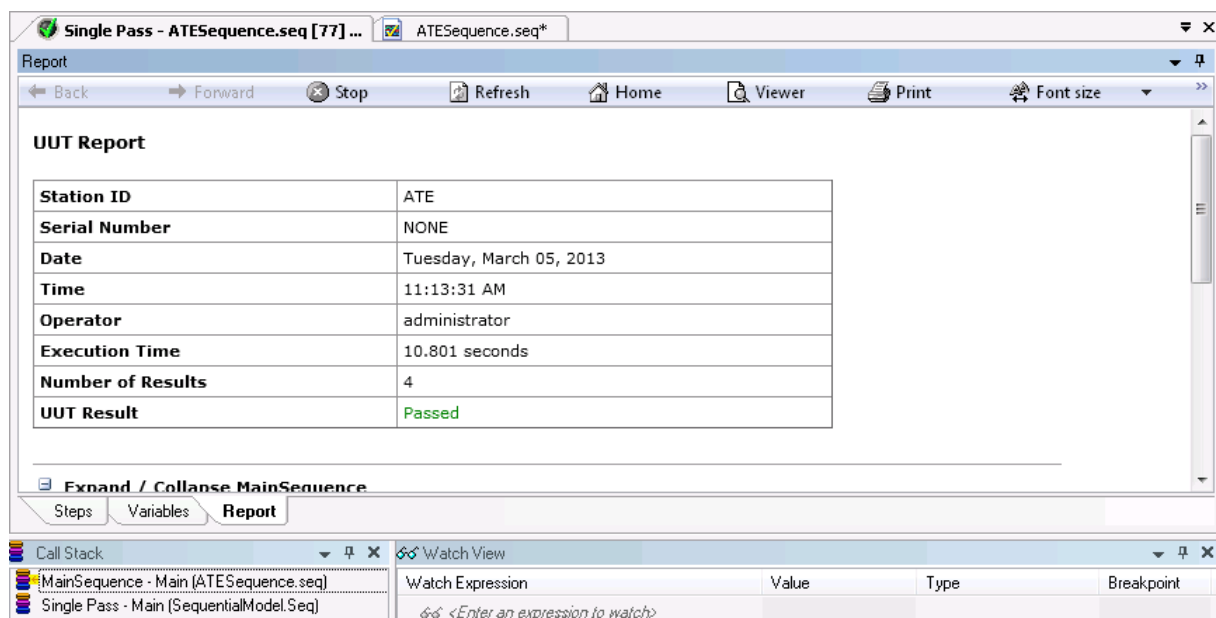

Figure 1-18. UUT Report
- Once the execution completes, view the test results, as shown in Figure 1-18.